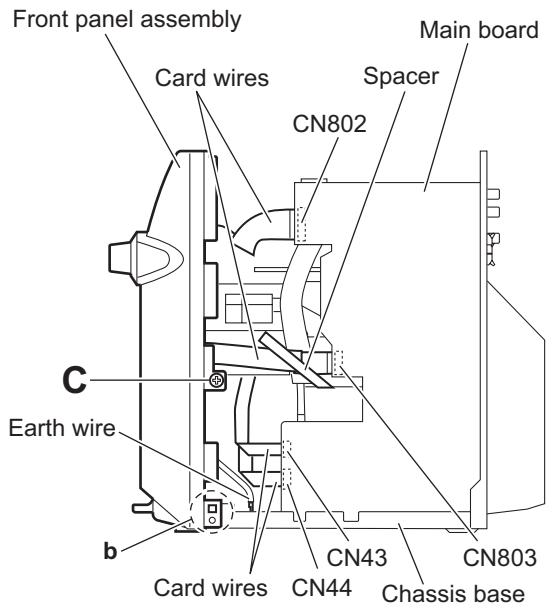

Fig.4
### 3.1.2 Removing the front panel assembly (See Figs.4 to 7)
(1) From the right side of the main body, disconnect the card wires from the connectors (CN43, CN44, CN802, CN803) on the main board. (See Fig.4.)
After connecting the card wire to the connector CN803 on the main board, fix it with the spacer as before. (See Fig.4.)
(2) Disconnect the earth wire from the chassis base. (See Fig.4.)
(6) From the both sides of the main body, remove the two screws C attaching the front panel assembly. (See Figs.4 and 6.)
(8) Release the joints b of the front panel assembly from the chassis base and remove the front panel assembly in the direction of the arrow. (See Figs.4, 6 and 7.)